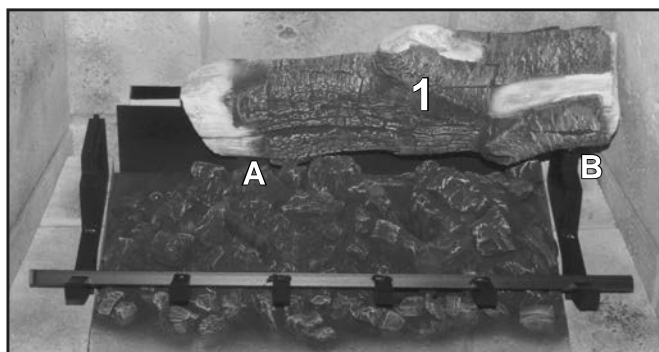

Figure 23: Log 1 in Place.
1. Install Right Rear Log. The right side sits on the grate with the groove on the bottom of the log fitting onto the top of the grate (see Figure 23). Insert the log pin into the top of the ember burner (see A in Figure 23). Align the log front edge with the front section of the grate (see B in Figure 23).